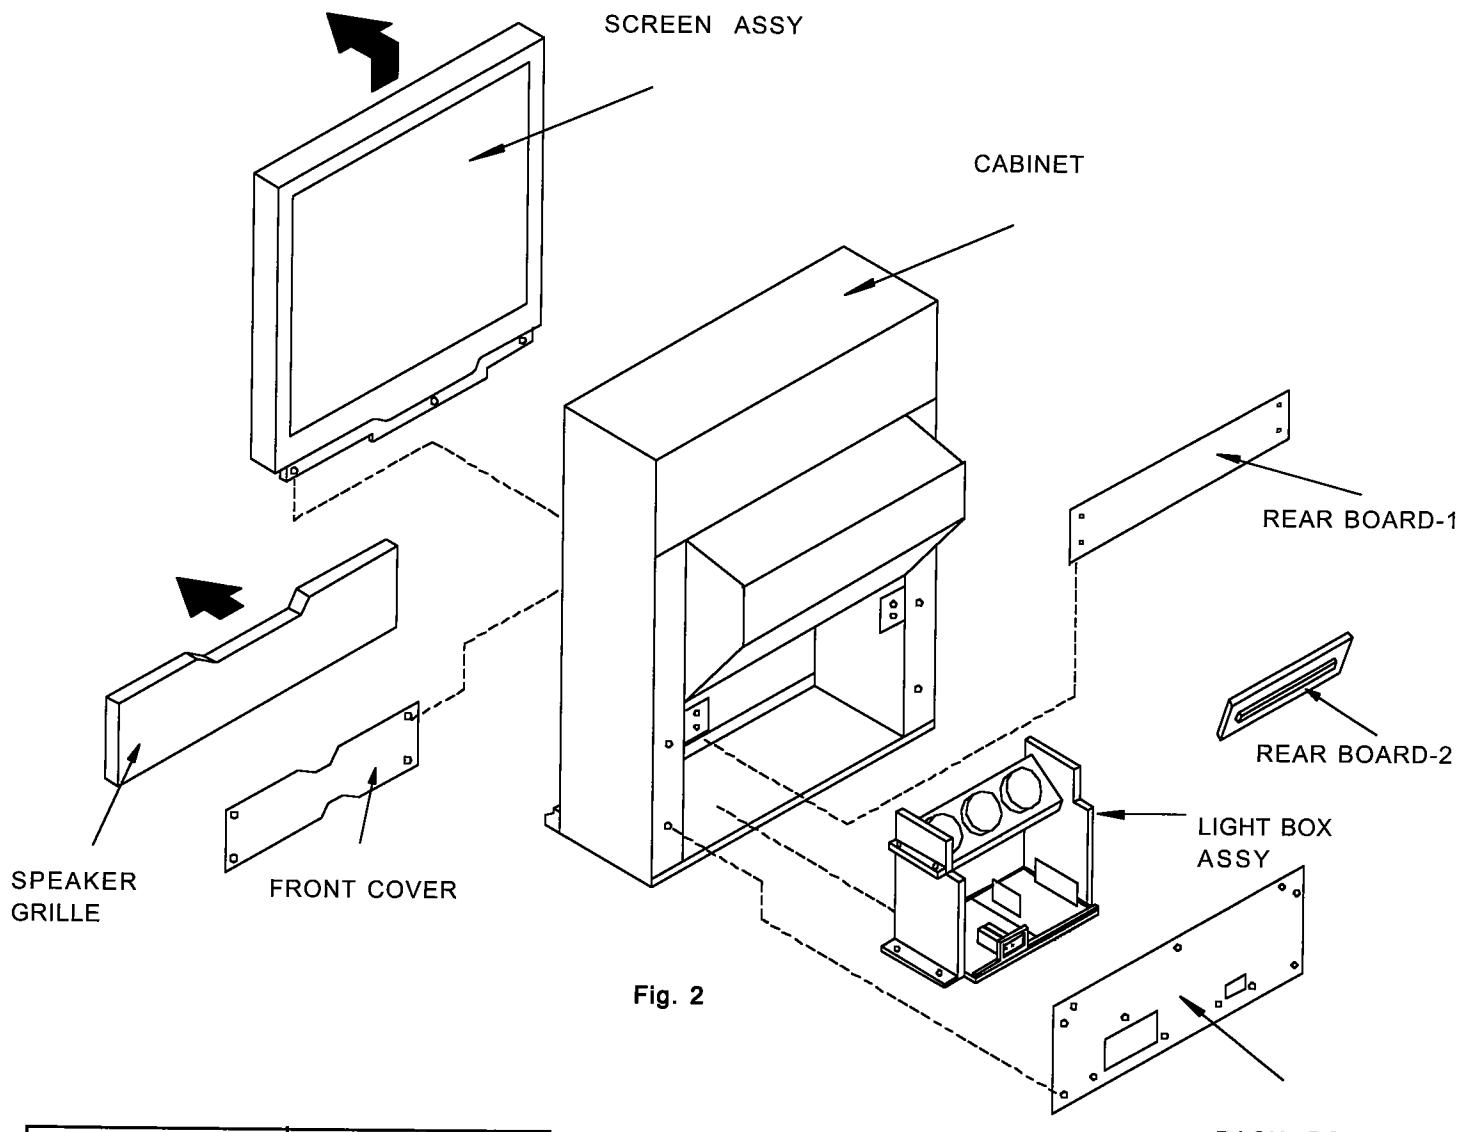

Fig. 2
1. Remove the screen assembly as shown in figure 2.
Note: Refer to figures 2, and 2-1 when performing steps 1 through 4.